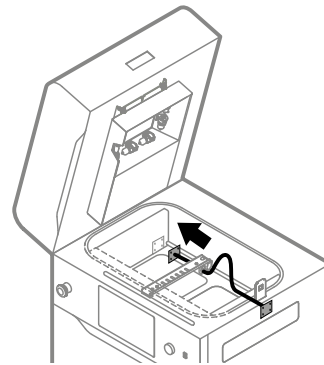

Fig. 12.15 Installing a new Recoater cord.
18. Pre-install the plate with the spring on the Print Bed side. Be sure that the spring is fitted into the hole behind the plate. Do not tighten the screws to the end of the range (fig. 12.15).
20. Wind the Recoater cord on the roller tracing wheel (fig. 12.15).